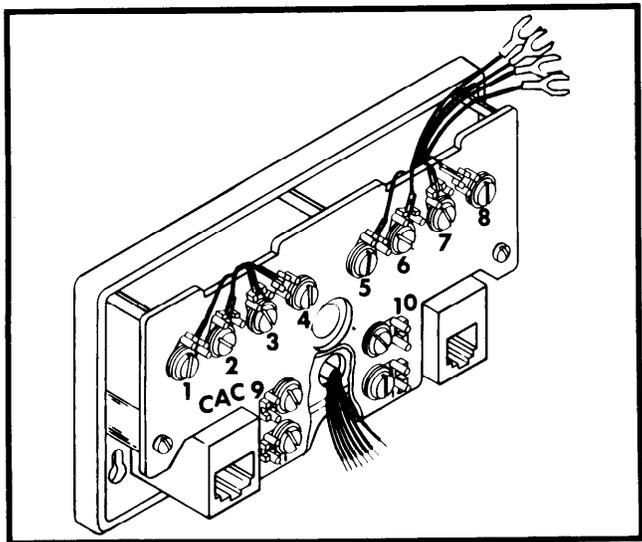

FIGURE 4
- (c) Push the conductors through the opening in the adhesive backing directly behind the entry port of the 635 base. See Fig. 4.